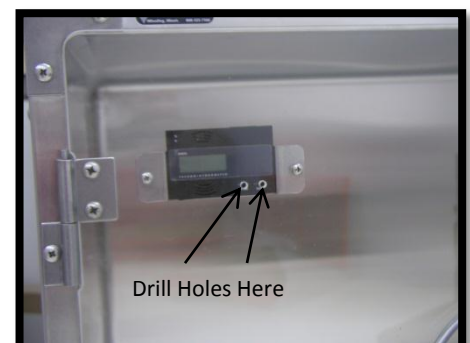

Figure 23: Drilling Button Access Holes
5. On the front of the polycarbonate door, mark the centers of the two buttons on the face of the gauge (Figure 23).
7. With a 1/16 in. bit, drill two holes in the door at the locations marked in Step 5 (Figure 23). This will provide easy access to the buttons on the front of the gauge.